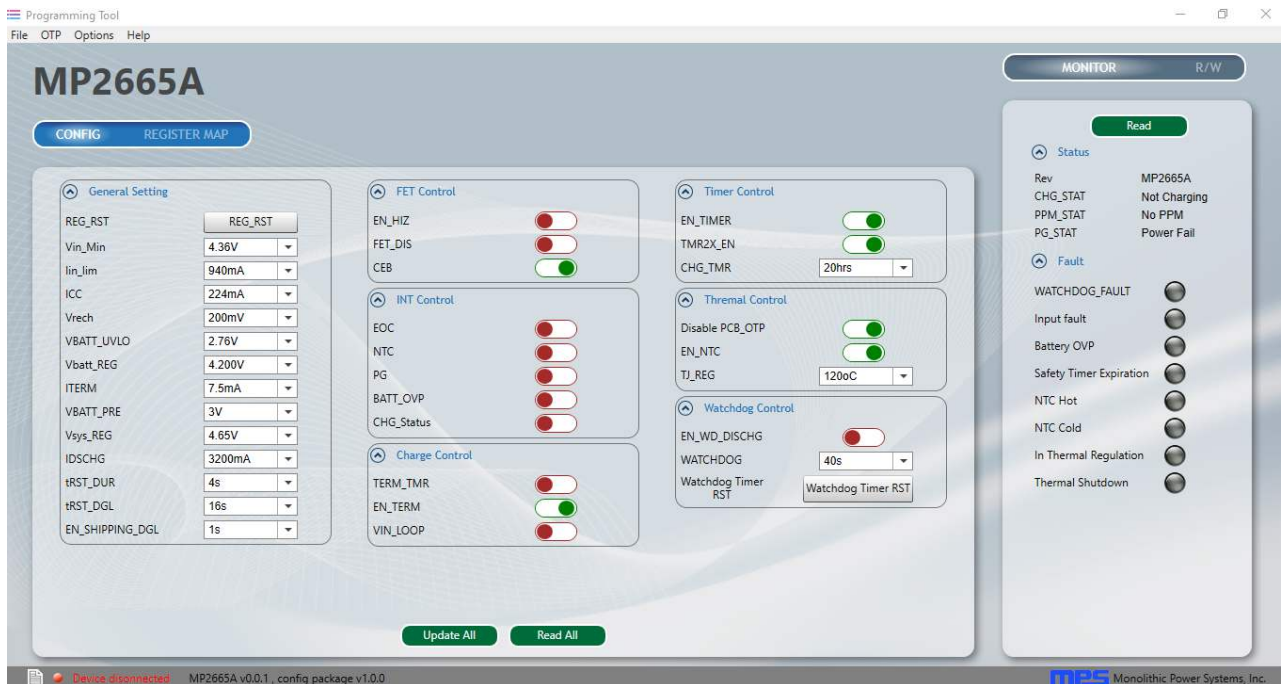

Figure 4: MP2665A Evaluation Interface
4. Turn on the computer and launch the MP2665A evaluation software. Figure 4 shows the main window of the software.